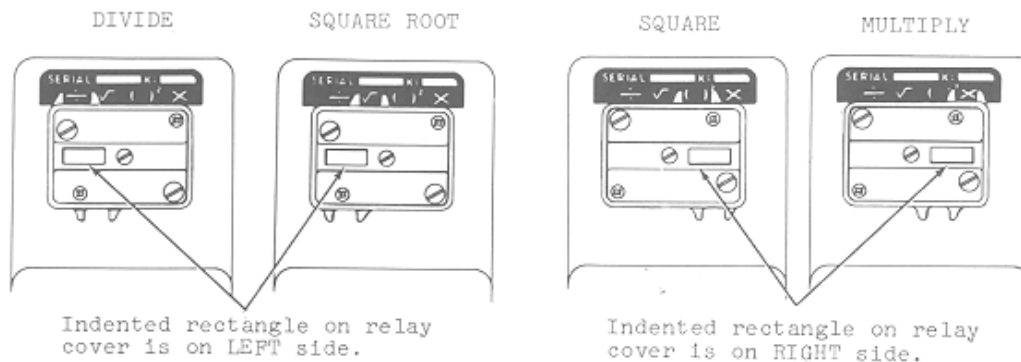

Figure 11.
3. Reinstall relay in position corresponding to desired function, see Figure 11, for relay positions for Style C computers.